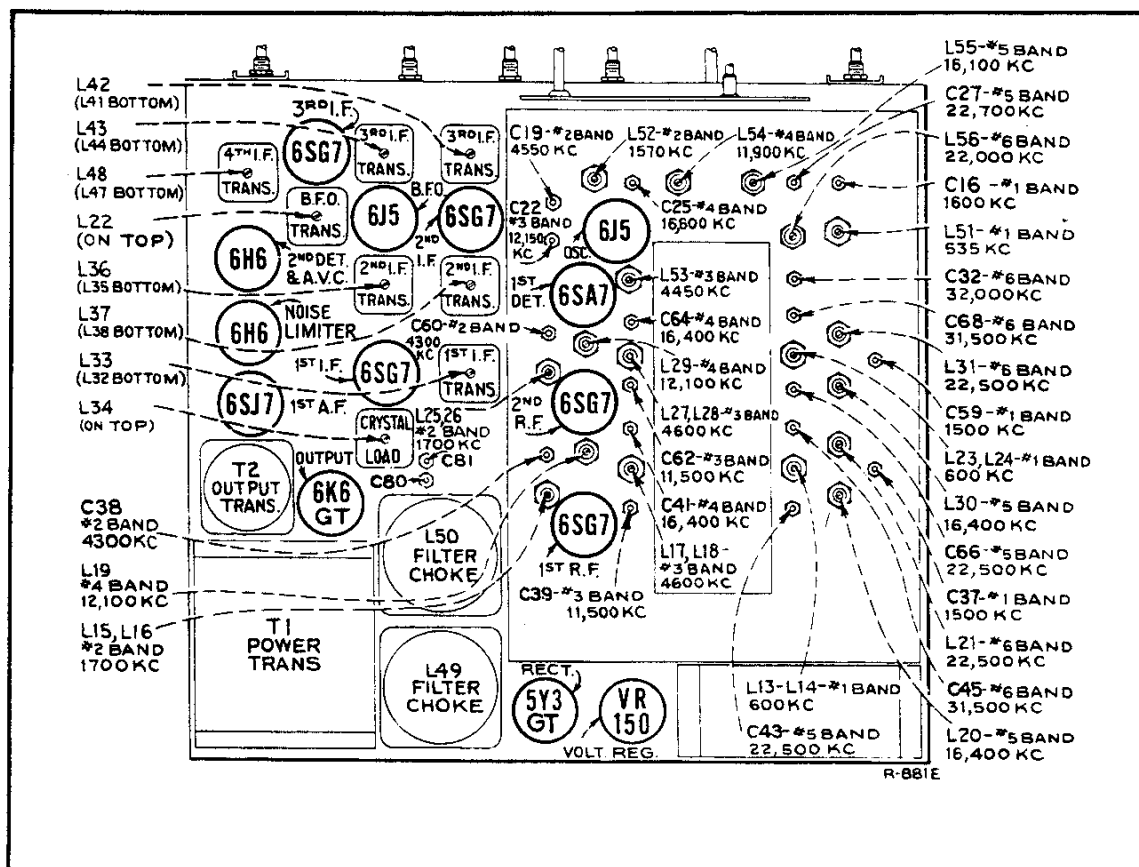

Figure 4—Diagram of Top of Chassis
- Place the Selectivity Switch in Position 4. Rock the signal generator frequency and adjust trimmer C81 for symmetrical curve. (Fig. 4.)
- Place the Selectivity Switch in Position 5. Adjust Trimmer C80, rocking the signal generator as in (a) and (b). (Fig. 4.)